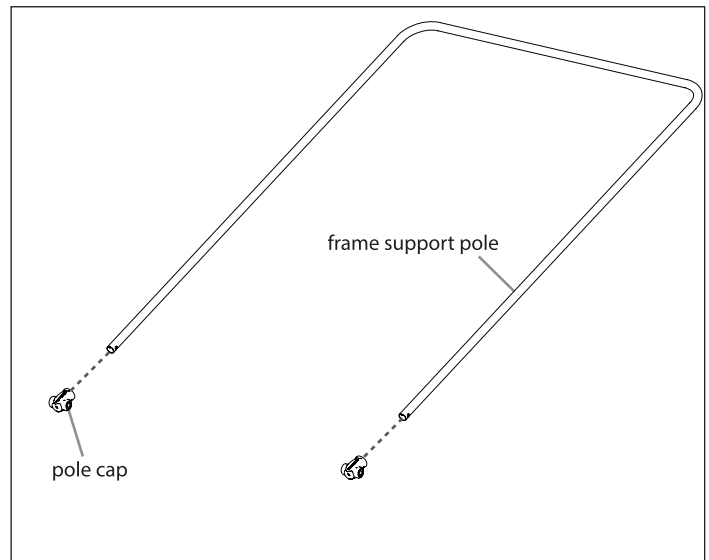

FIGURE 2
4. Locate the (8) pole caps (15295) from the parts bag. Using (6) of the pole caps, slide one pole cap on to each end of (3) frame support poles (15017). The holes in the frame support poles must line up with the holes in the pole caps. **SEE FIGURE 2**